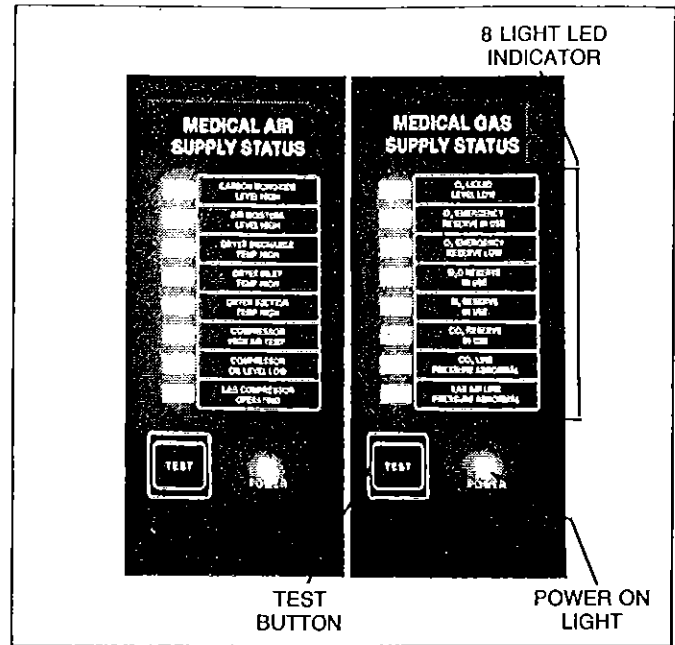

FIG. 5 — 8-SIGNAL MODULE
D. The 8-Signal Module (See Fig. 5)
The 8-Signal Module (See Fig. 5) is used exclusively to monitor remote signals. Examples of such remote signals are: *Reserve In Use*, *Low Liquid Oxygen Level*, *High/Low Abnormal Line Pressure*, or the status of another alarm panel which is wired in *slave*. The 8-Signal Module contains a GREEN power ON indicator and a test button that will activate all eight signals simultaneously and the audio tone in the display module. In operation, one or more of the red lights coming on will cause an audible alarm from the display module and activate the red light beside the appropriate signal description. Pressing the silence button on the display module will not cause the red visual indicator to go out. Only a correction at the source of the signal will cause the red indicator light to turn off. Each of the signals in the 8-Signal Module acts independently of the others during an alarm condition; i.e., activation of any other signal in any sequence of the remaining seven signals will duplicate the alarm functions independently.